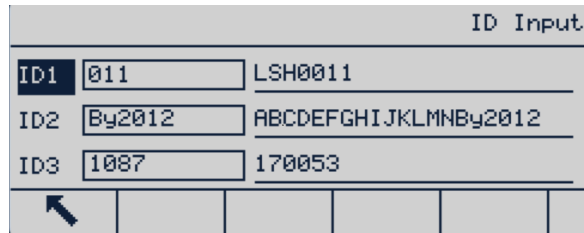

Figure 1-47: ID Input Screen
7. Now, in the ID Input screen, when an index value is entered for ID1, ID2 or ID3, the corresponding ID description will appear automatically (see Figure 1-47).